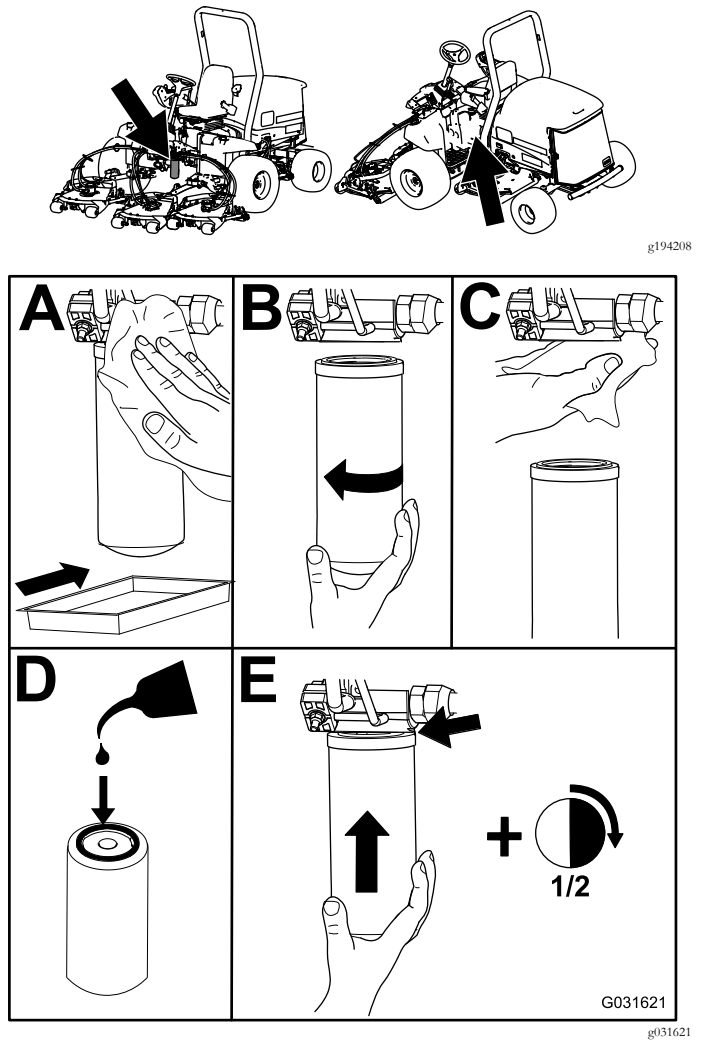

**Figure 60**
2. Replace both of the hydraulic filters (Figure 60).